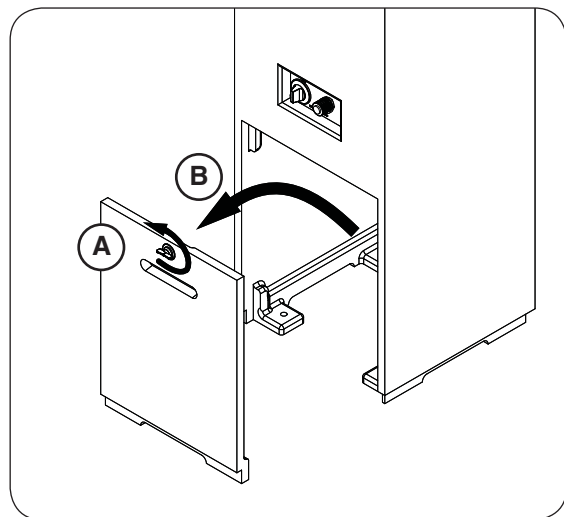

Fig. 15-2 Remove door
1. Remove the storage door by first turning the door handle counter-clockwise, then carefully pulling the door outward (see Fig. 15-2). Store in a safe location.